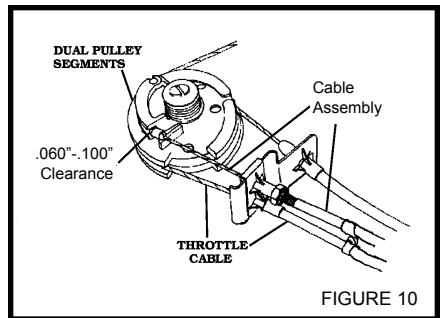

FIGURE 10
5. Attach the **T-BAR ADAPTOR** to the **BEAD CHAIN CONNECTOR**. Make sure to slide the **BEAD CHAIN COVER** over the **BEAD CHAIN CONNECTOR**. **Figure 10**